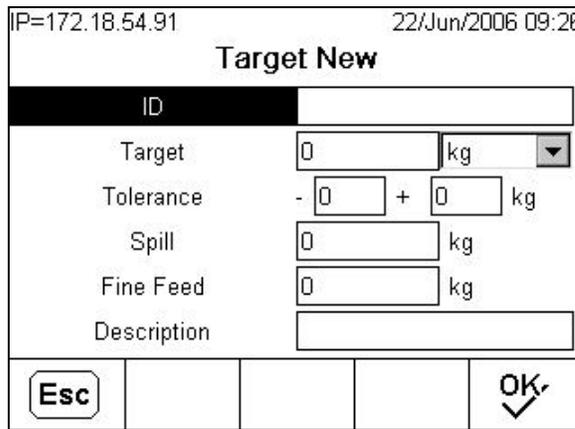

Figure 7-20: Target New Screen
- To create a new target record, press the NEW softkey . The Target New screen (Figure 7-20) opens.